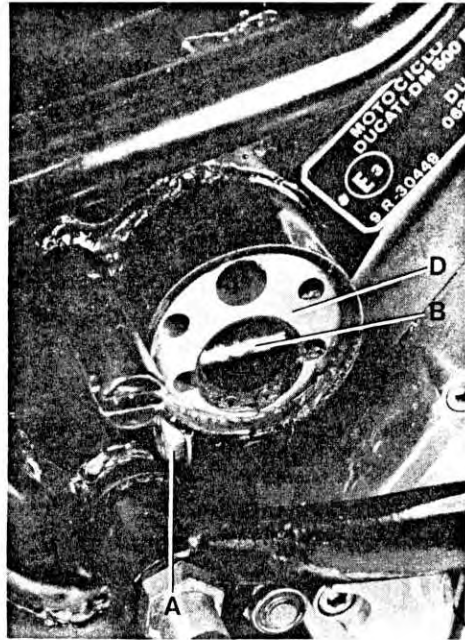

Fig. 16
(fig. 16 - 17); turn eccentric adjuster (D) so that $15 \div 20$ mm of slack remain at the midpoint of the bottom run of the chain. Tighten the two bolts (A) and refit the two plastic caps.